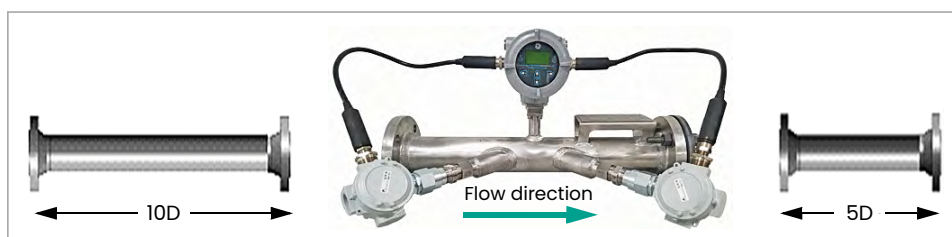

Figure 4: Minimum straight run pipe requirements
- Locate the flowcell so that there are at least 10 pipe diameters of straight, undisturbed flow upstream and 5 pipe diameters of straight, undisturbed flow downstream from the measurement point (see *figure 4*). Undisturbed flow means avoiding sources of turbulence in the fluid (e.g., valves, flanges, expansions, elbows, etc.), avoiding swirl, and avoiding cavitation.